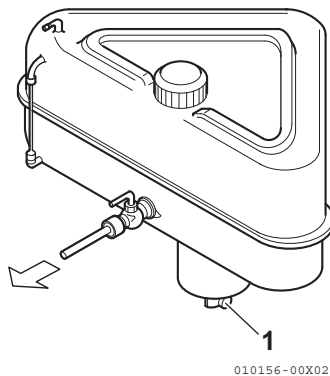

Figure 1
1. Put a pan (1, **Figure 1**) under the drain cock to catch fuel.